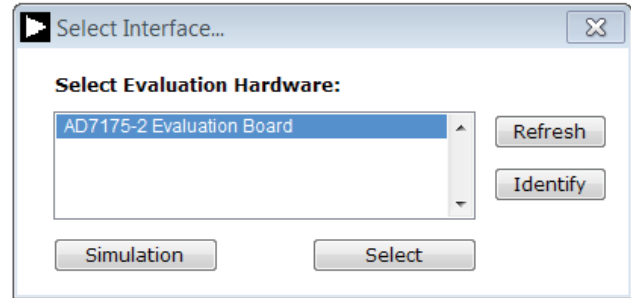
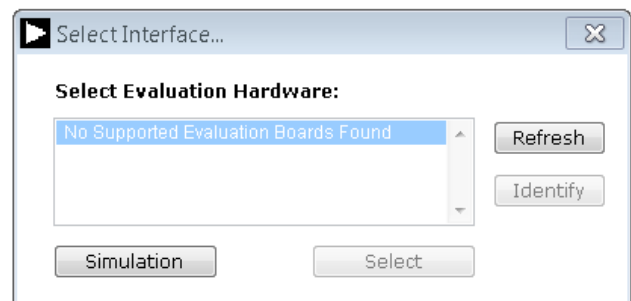
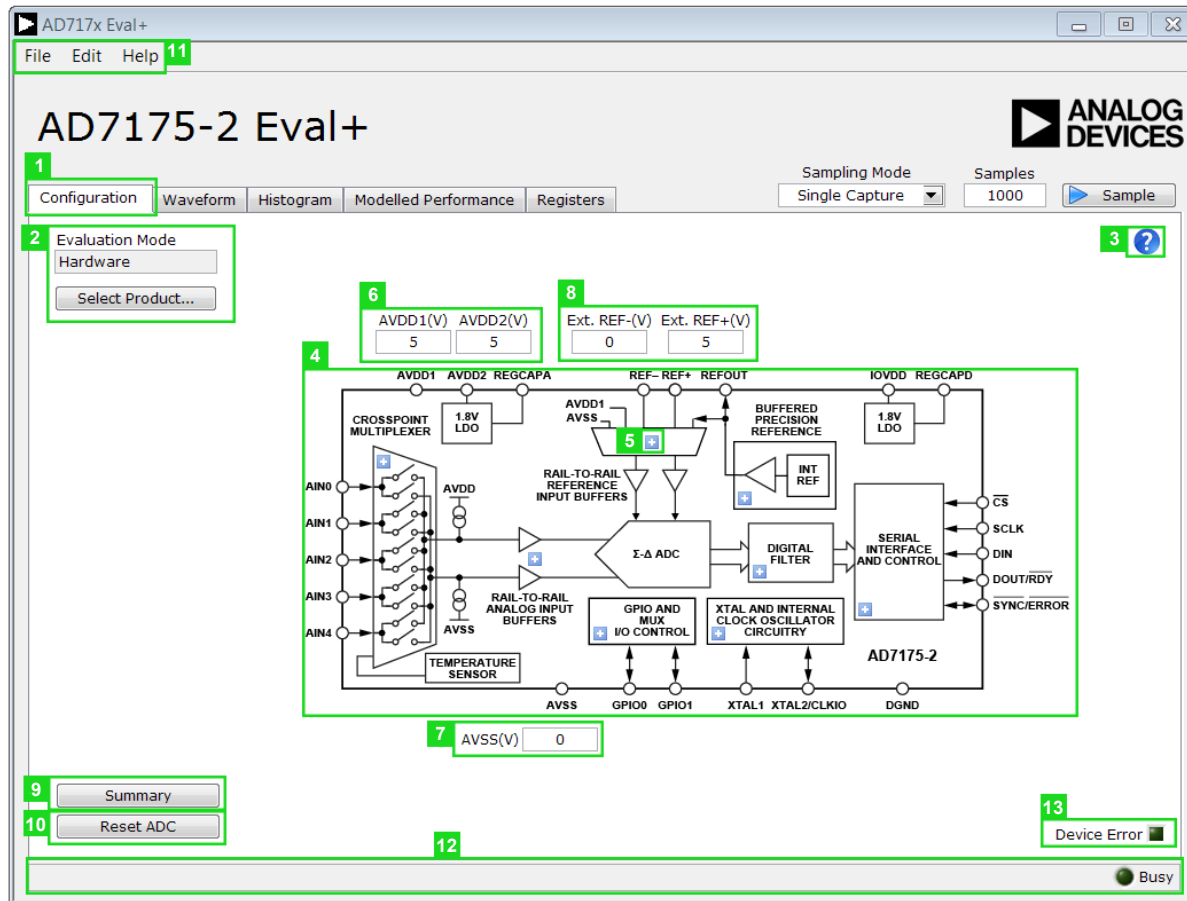
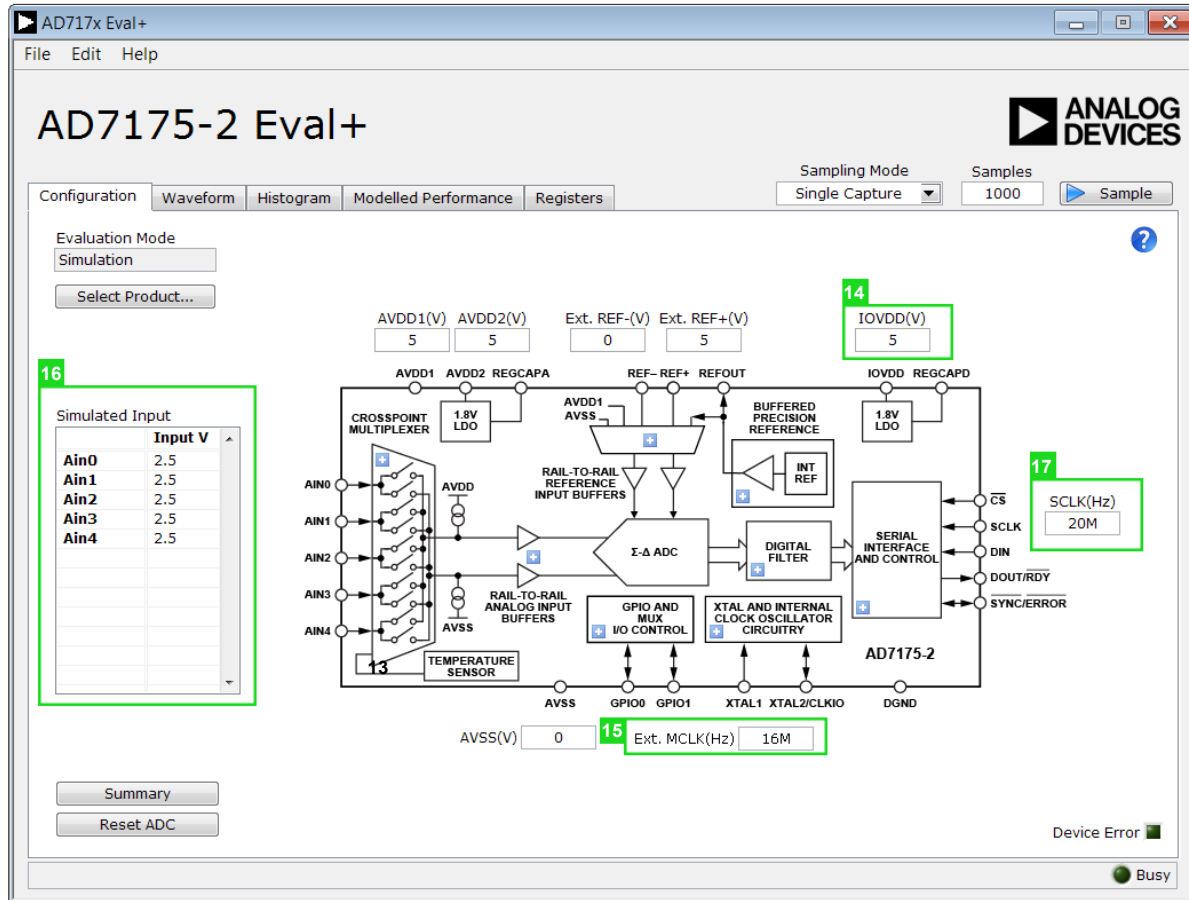

Figure 13. AD7175-2 Evaluation Board Selection
Figure 14. Evaluation Board Selection, No Board Connected
Figure 16. Configuration Tab of the AD7175-2 Eval+ Software in Hardware Mode
Figure 17. Configuration Tab of the AD7175-2 Eval+ Software in Simulation Mode
2. The dialog box in Figure 13 appears, select **AD7175 Evaluation Board**. The main window of the software box displays as shown in Figure 16.
3. If the **EVAL-AD7175-2SDZ** evaluation system is not connected to the USB port via the **SDP-B**, when the software is launched the **Select Interface** dialog box appears (see Figure 14). Connect the evaluation board to the USB port of the PC, wait a few seconds, click **Refresh** and the option shown in Figure 13 appears.
Figure 16 shows the Configuration tab when **Hardware Mode** is selected and Figure 17 shows the Configuration tab when **Simulation** mode is selected. The controls highlighted in Figure 17 are only available in **Simulation** mode.
The Evaluation Mode indicator displays the current evaluation mode. To switch between modes, click the **Select Product** button and the dialog box shown in Figure 13 appears.